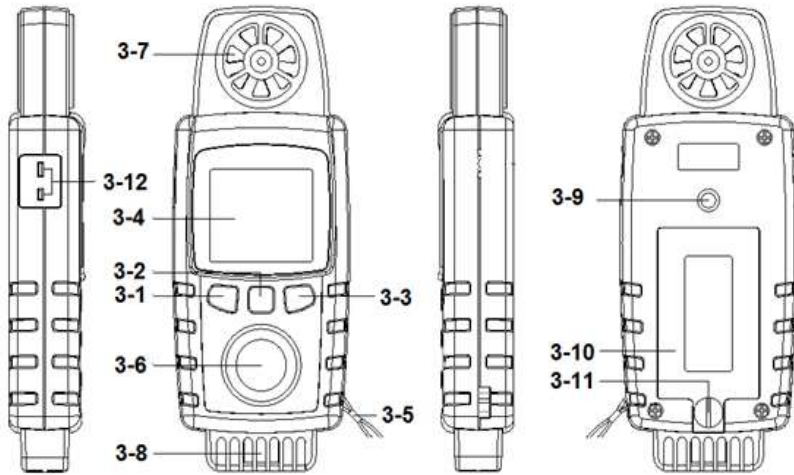

Fig. 1
Intend to get the precision reading, for the Humidity / Temp. , Dew point Temp., Wet bulb Temp., Heat index measurement, the hand or fingers do not touch (or stay away) the Humidity sensor (3-8, Fig. 1).
- 1) Insert the plug of the optional Type K Temp. probe, TP-01 into the " Type K probe socket " (3-12, Fig. 1).
- 2) Open the " Battery Compartment / Cover " (3-10, Fig. 1) and remove the battery.